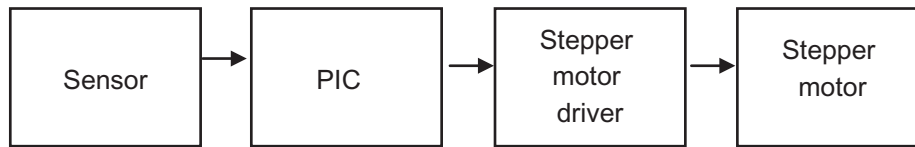

Fig. 1(d)
- (i) State if the system shown in Fig. 1(d) is open loop or closed loop and justify your answer. [4]
- (ii) It has been suggested that the sensor shown in Fig. 1(d) could be used as the input for a system to count and display the number of people entering the gallery which must not exceed 550. Draw an annotated block diagram based on a number of BCD counters, display drivers and seven segment displays to achieve this. Your answer should include an alarm that will sound when the maximum number of 550 is reached. [5]
- (iii) On the blank pro forma provided (answer number 1(d)(iii)) draw a complete annotated PIC based circuit diagram (and associated flowchart program) to produce a viable design based on the systems diagram shown in Fig. 1(d) that will fulfil the following points: